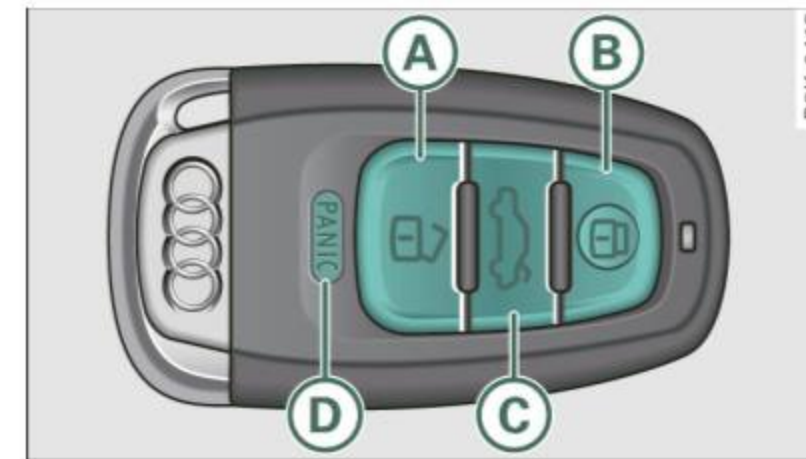

Fig. 40 Remote control: function buttons
If you switch “Trunk lid” **off**, opening the rear lid at the handle ⇒ page 55, fig. 47 is blocked. In this case the rear lid can be opened with the button  on the master key ⇒ fig. 40 or with the unlocking button in the driver's door ⇒ page 55, fig. 46. ■
- Press button  (**A**) to unlock the vehicle ⇒ fig. 40.